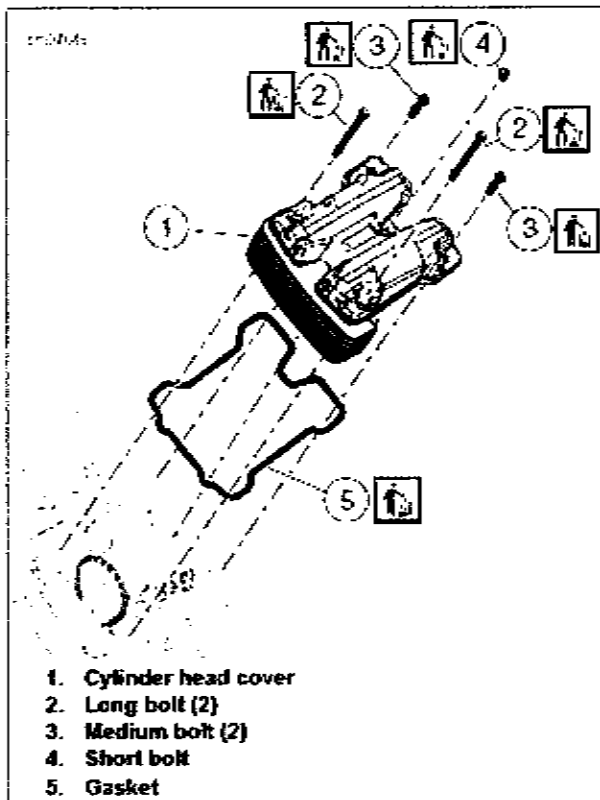

Figure 4-9. Cylinder Head Cover
1. See Figure 4-9. Remove cylinder head cover.
- b. Remove cylinder head cover (1).
- c. ~~Discard gasket (5).~~
- f. See Figure 4-9. Install cylinder head cover.
- a. Install cylinder head cover (1) and new gasket (5).
- b. Install ~~new~~ medium bolts (3).
- c. Install ~~new~~ long bolts (2).
- d. Install ~~new~~ short bolt (4).
- e. See Figure 4-9. Tighten cylinder head bolts in sequence shown to 10.0-12.0 Nm (89-106 in-lbs).